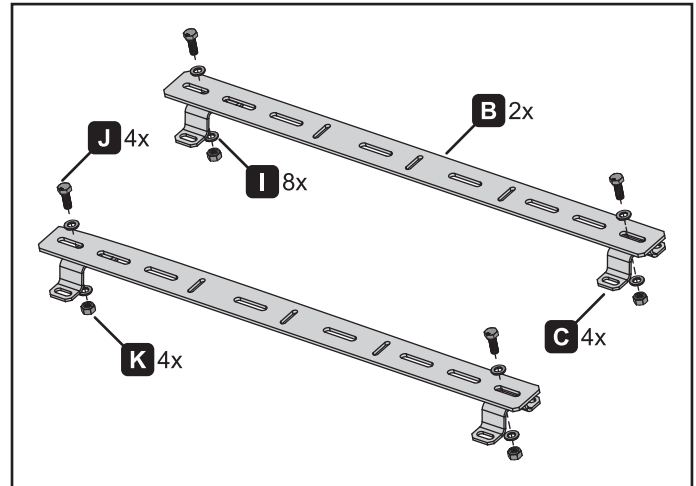
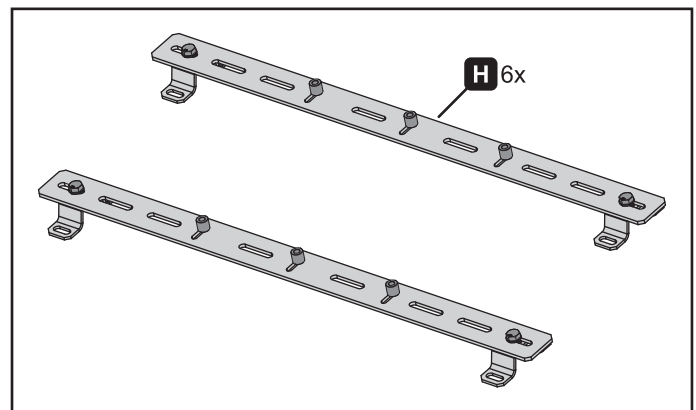

Figure 1.
Figure 2.
4. Place the crossbars (B) in the desired location and identify the slots closest to the attachment points.
5. Loosely install the four assembly feet (C) onto the crossbars using the provided hardware (I, J, K). Do not tighten fasteners. Position the assembled crossbars with feet into the mounting location and loosely reinstall the factory hardware to hold the assembly in place (figure 1).
- Optional taller feet (D) are provided for uneven mounting surfaces that require additional height.
- If factory hardware does not allow use of all four points, use the included screws (L) and washers (M).
6. Place the six spacers (H) on the crossbars, aligning each hole with the vertical slots (figure 2).
2. Place the crossbars (B) in the desired location and identify the slots closest to the attachment points. When installing in a dual configuration, the crossbars will overlap.
3. Loosely install six assembly feet (C) onto the crossbars using the provided hardware (I, J, K). Do not tighten fasteners. Position the assembled crossbars with feet into the mounting location and loosely reinstall the factory hardware to hold the assembly in place. Utilize the excess hardware (I, J, K) to fasten the crossbars together.
5. If factory hardware does not allow use of all four points, use the included screws (L) and washers (M).